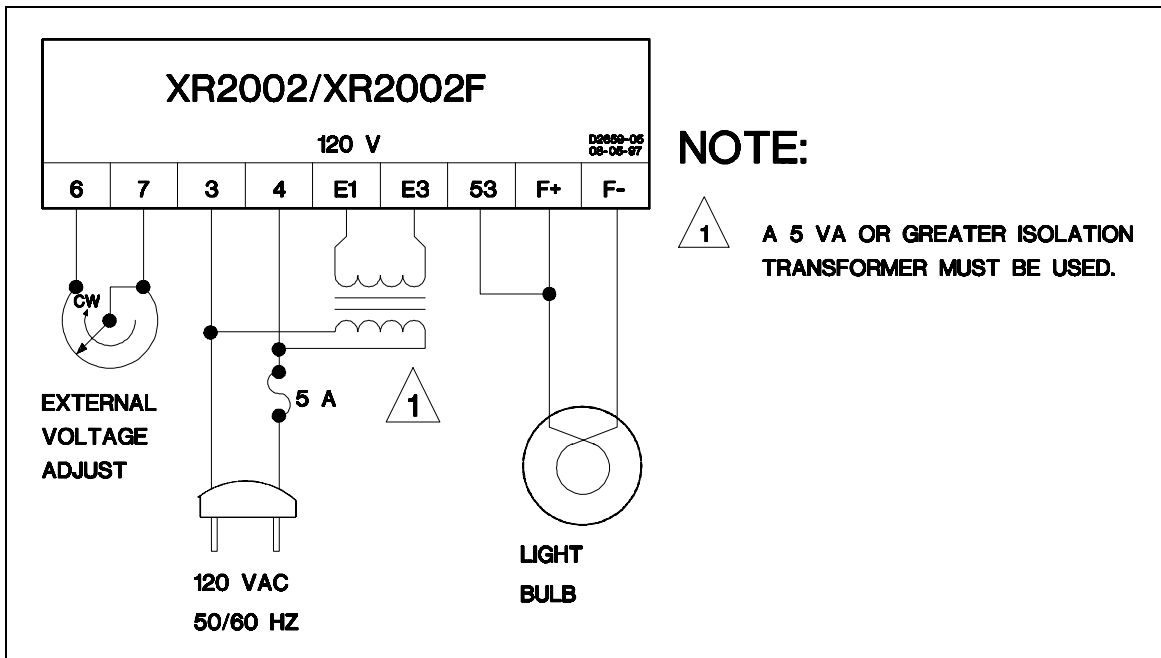

Figure 4-1. Operational Test.
- a. Connect the test setup as shown in Figure 4-1. Do not apply power. Ensure the light bulb is 120 V and less than 200 watts.